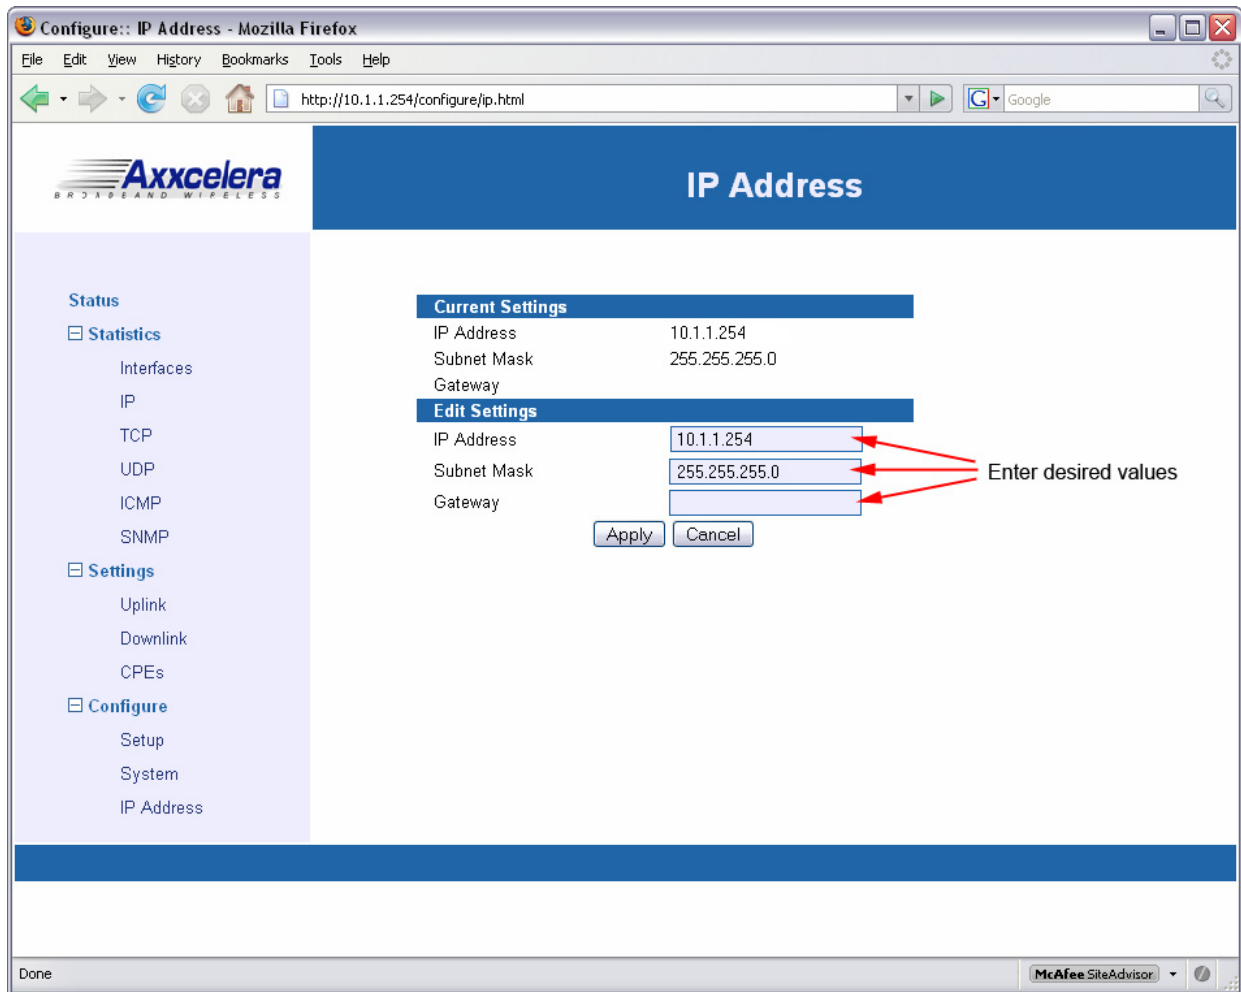

Figure 4-3: Configuring the IP Address
- 2) When the **IP Address** screen (Figure 4-3:) appears, in the **Edit Settings** fields enter the appropriate IP Address, Subnet Mask, and Gateway addresses.